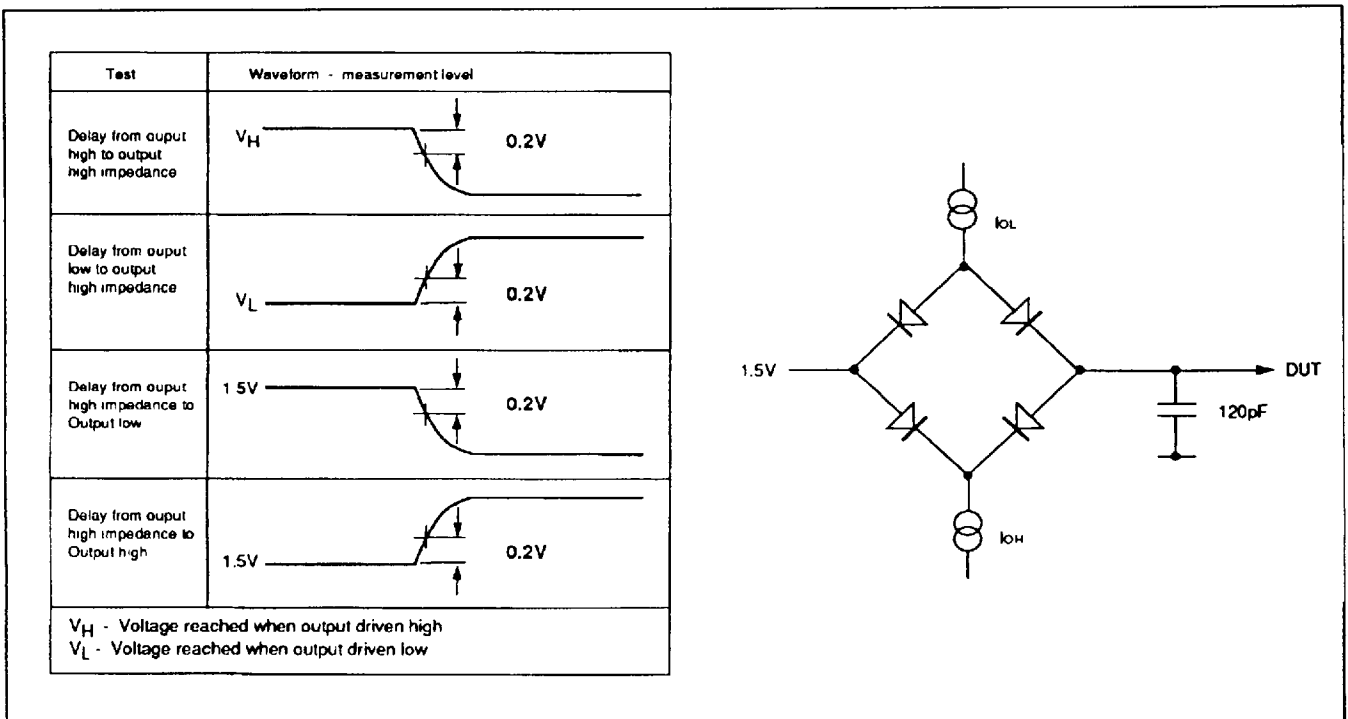

Fig.8 - Three state delay measurement
3. With load specified in Fig.8.